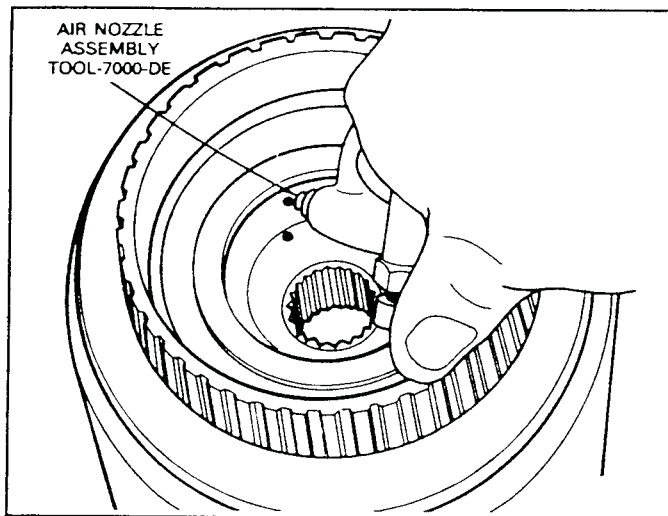

FIG. 50 Removing Forward Clutch Piston
4. Apply air pressure to the clutch cylinder using TOOL-7000-DE or equivalent (Fig. 50) to remove the piston.